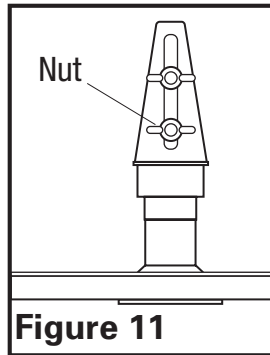

**Figure 10**
- To remove the filters, pull down on the handle tab until the filter releases from the unit. To reinstall, slide tab at rear of filter into slot in the unit. While holding in handle of filter, lift filter into place and release handle. The filter should snap securely into place (Figure 10).